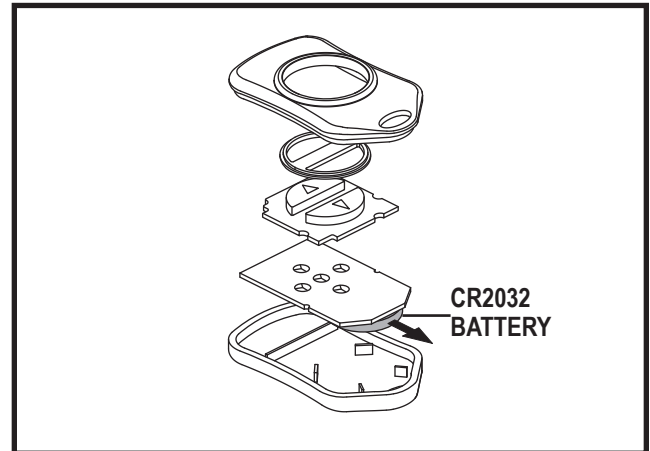

Figure 19. Battery Replacement
2. Remove the coin cell battery. **See figure 19.**